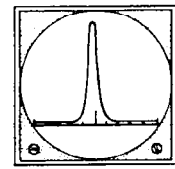

Figure 4
- () Turn the slug of coil L2 clockwise until the IF signal pip is centered on the screen base line. If the top of the pip is off the screen at the top of the CRT, turn the PIP GAIN control counterclockwise until the complete pip pattern is visible. See Figure 4.